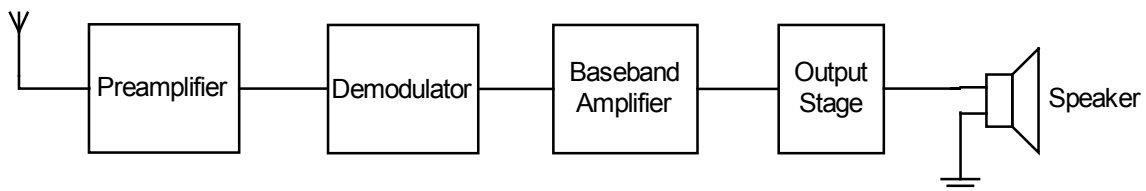

Figure 1- System-level diagram of the AM receiver
The signal information, also called the baseband signal, is usually a low-frequency signal which, in the case of audio systems, is comprised of the audio band (from 0 Hz to 20 kHz). As these signals cannot be transmitted efficiently (they would require very long antennas), they are usually transmitted on top of a high-frequency carrier signal, also known as the RF (Radio Frequency) carrier. The carrier frequency is a high frequency signal which carries the baseband signal containing data. This process is known as signal modulation. There are many types of signal modulations, some of the simplest are: amplitude modulation (AM) and frequency modulation (FM). This experiment will focus on the AM receiver shown in Figure 1.